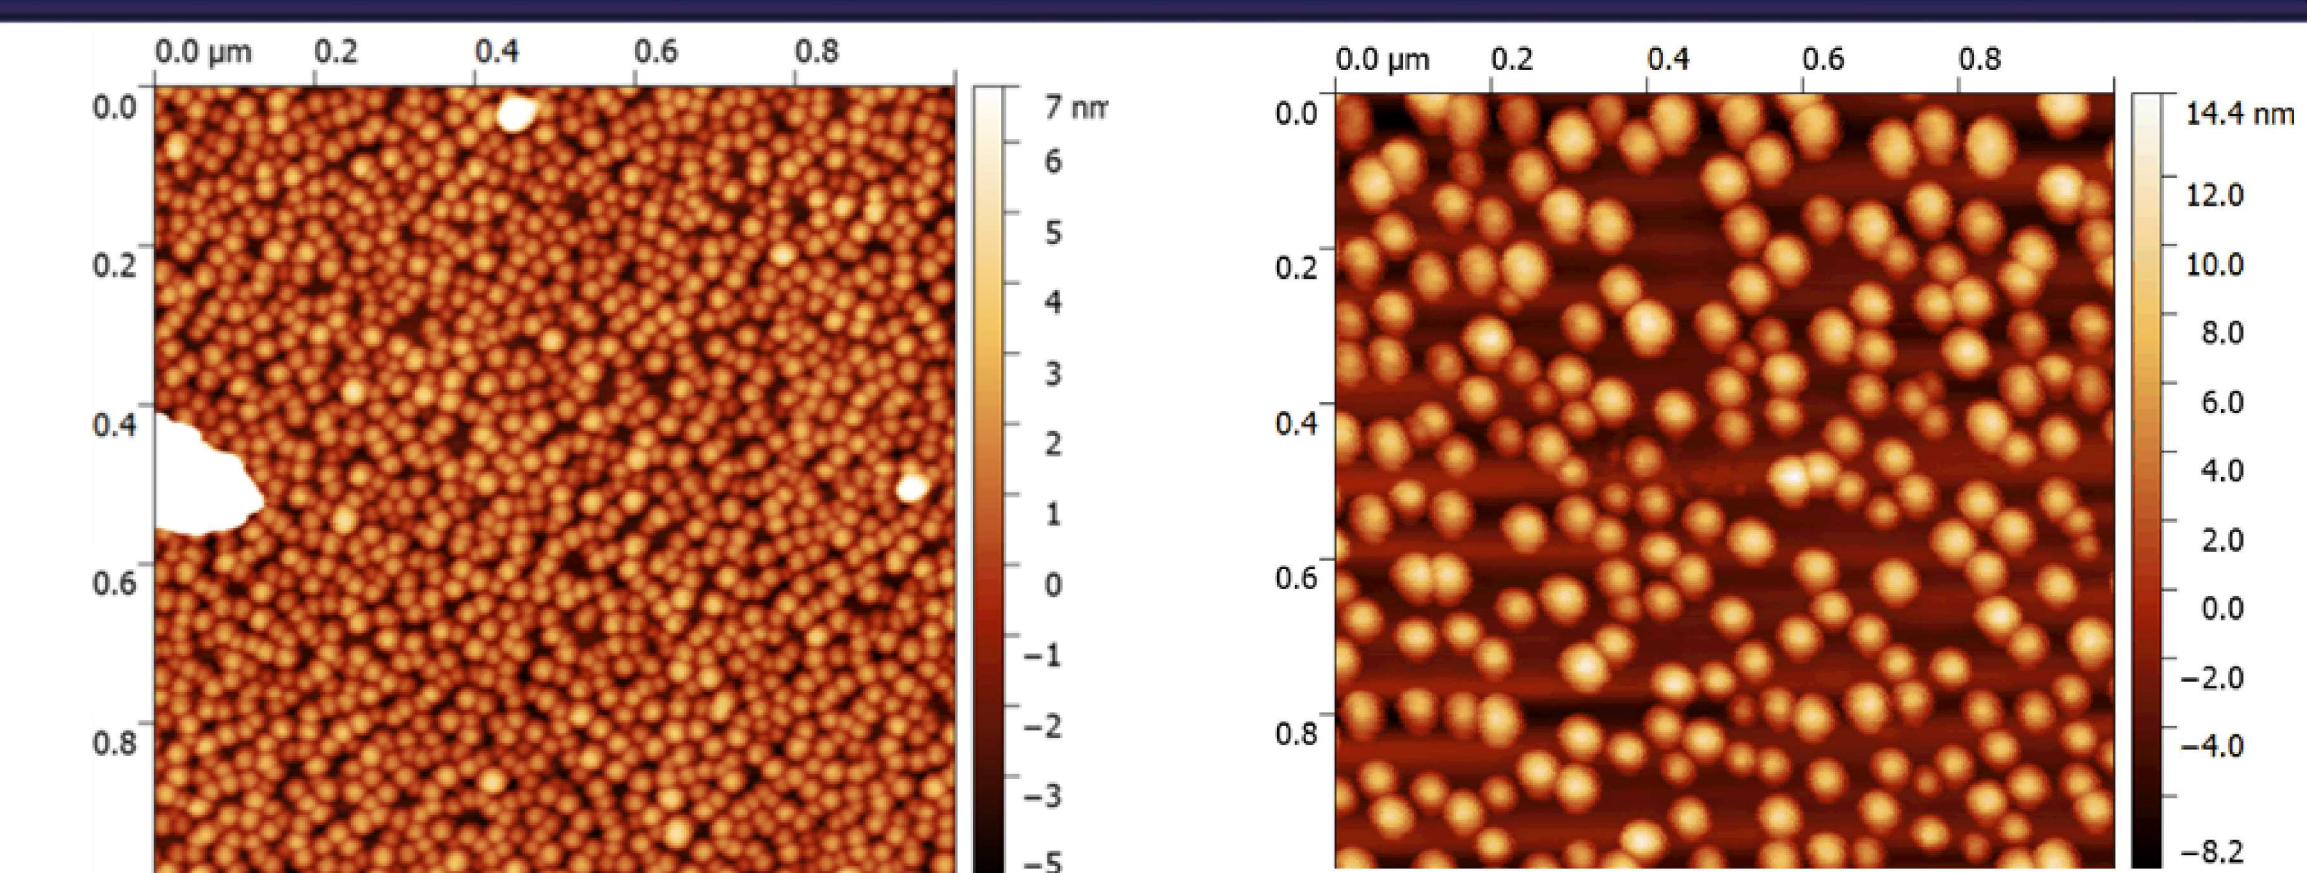

Figure 2: 1 X 1 μm AFM scans showing ability to tune QD size and density by modifying growth conditions such as temperature, growth rate and III-V ratio
- Strain between the epitaxial layer (QD) and the substrate drives 3-dimensional island formation. Eg: InAs on GaAs (7.16% mismatch)
- QD size, density and consequently emission wavelength can be tuned by modifying growth conditions. (shown in Fig. 2)